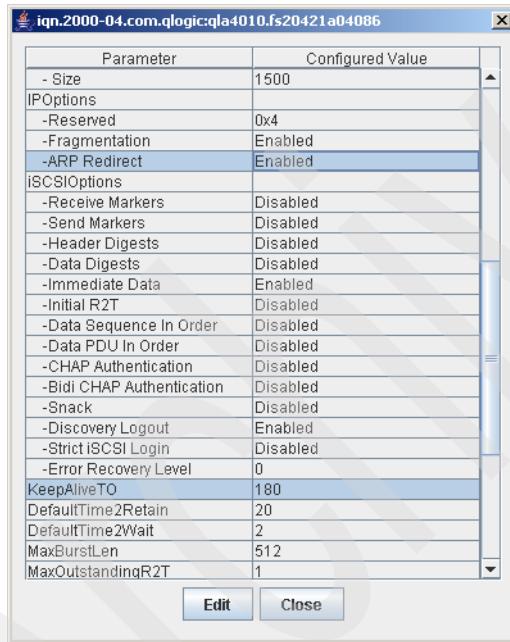

Figure 7-59 Modified firmware settings
5. The changed firmware settings are listed in Figure 7-59, but are not yet active. Click **Close**.